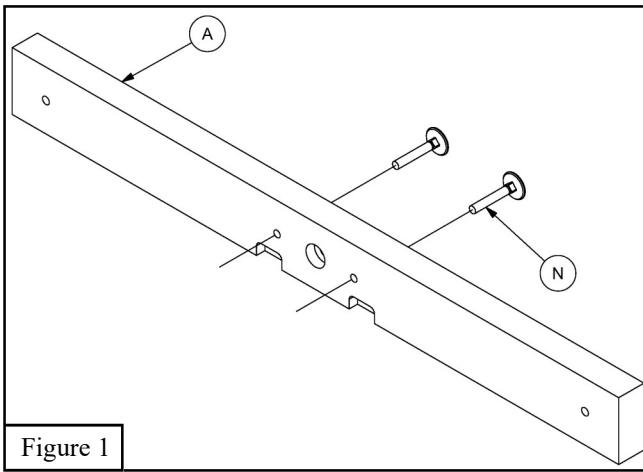

Figure 1
1. Drive two $3/8'' \times 2 1/2''$ Flanged Elevator Bolts (N) into the back side of each Wall Board (A). See Figure 1.